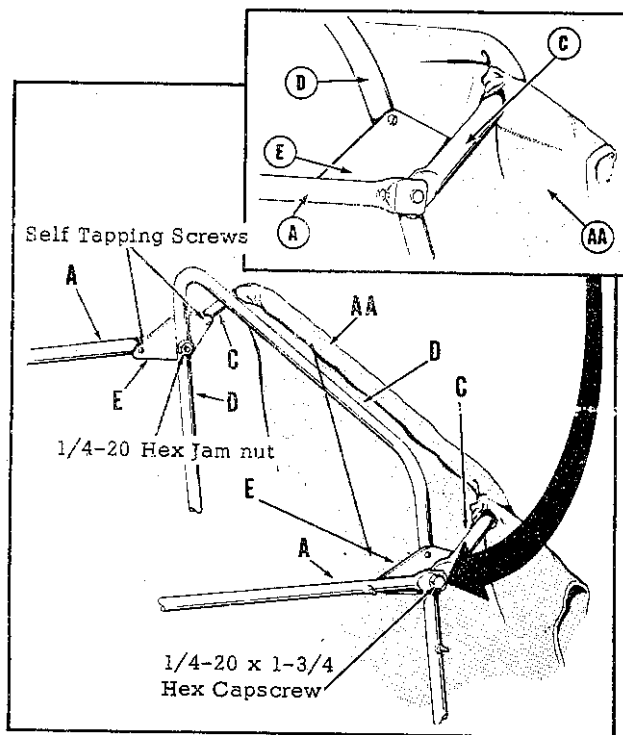

Figure 1
1. Slide the Top Rear Frame (C) through the channel in the top canvas canopy piece (AA).
2. Assemble the Vertical Frame (D), the Top Front Frame (A), and the Top Rear Frame (C) to each other using the Upper Gusset Plates (E) to hold the members in the proper relation to each other. The studs at the forward end of the Top Front Frame (A) are to point upward. The frame members are fastened to each other using a 1/4-20 x 1-3/4" lg. hex capscrew and lock nut. The gusset plate is fastened to the frame members by means of 3 self-tapping screws. Figure 1 shows the gusset plates, frame members, and canvas canopy at this stage of assembly.